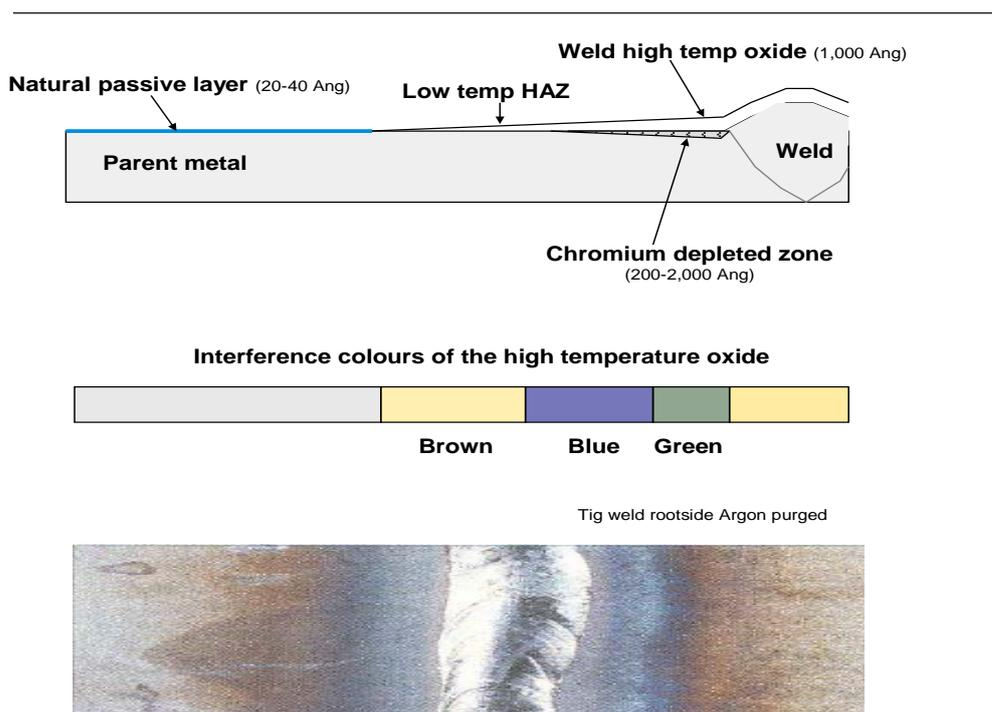

Figure 2. Surface oxidation, depleted zone and interference colours of stainless steel welds.
The high temperature heat affected zones (HAZ) of weldments are considered (1) to be chromium depleted, with an attendant reduction in corrosion resistance. The surface oxidation and chromium depleted zone and interference colours are represented in Figure 2.